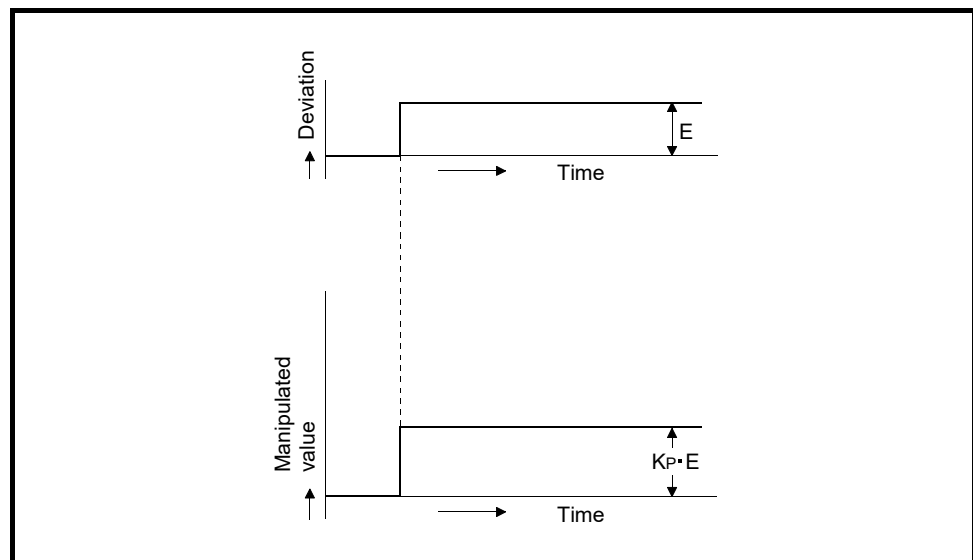

Fig. 1.7 Proportional action for step response
- (3) Figure 1.7 shows the proportional action for the step response with a constant deviation.
- (4) The manipulated value changes between -5.0% and 105.0%.